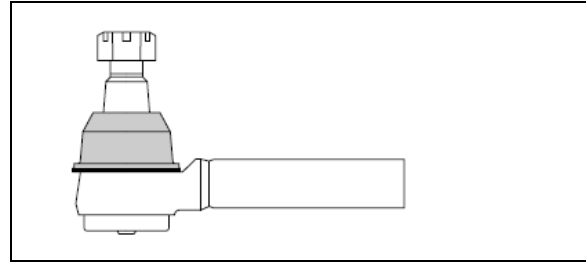

FIGURE 35: STRAIGHT BODY TYPE BALL JOINT
4. Check that the angular relationship of the pitman arm to the steering gear is as shown in Figure 35.